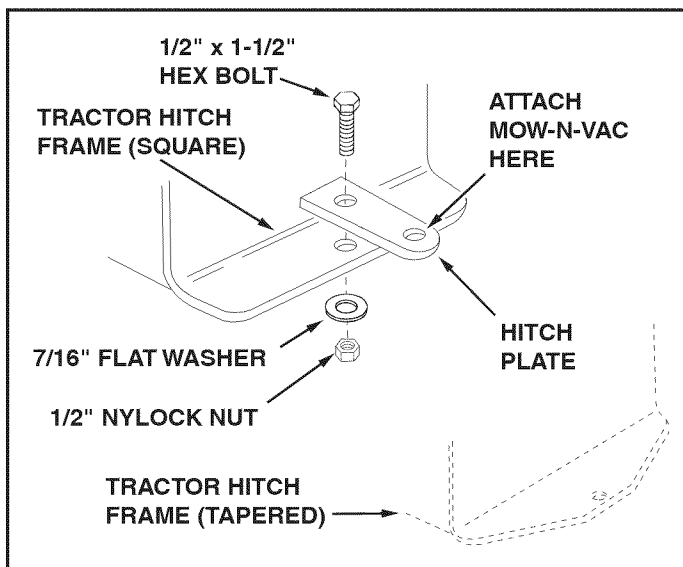

FIGURE 12
- (2) 3/4" Wrenches (only if figure 12 on page 12 is used)
Use a 1/2" x 1-1/2" hex bolt, a 7/16" flat washer and a 1/2" nylock nut. See figure 12.